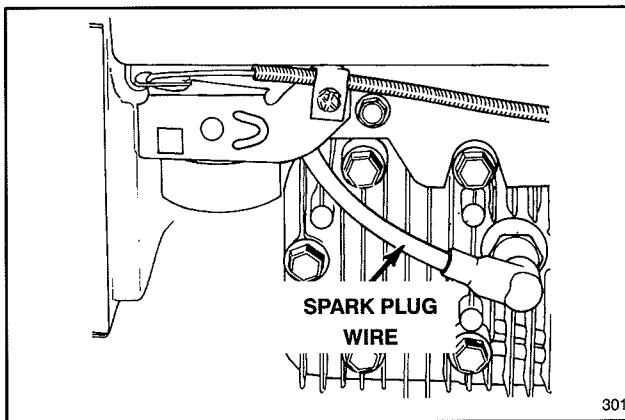

Figure 12
- Push spark plug wire onto spark plug (Fig. 12).
1. Stop engine and pull wire off spark plug (Fig. 12).
1. Stop engine and wait for engine to cool. Pull wire off spark plug (Fig. 12).